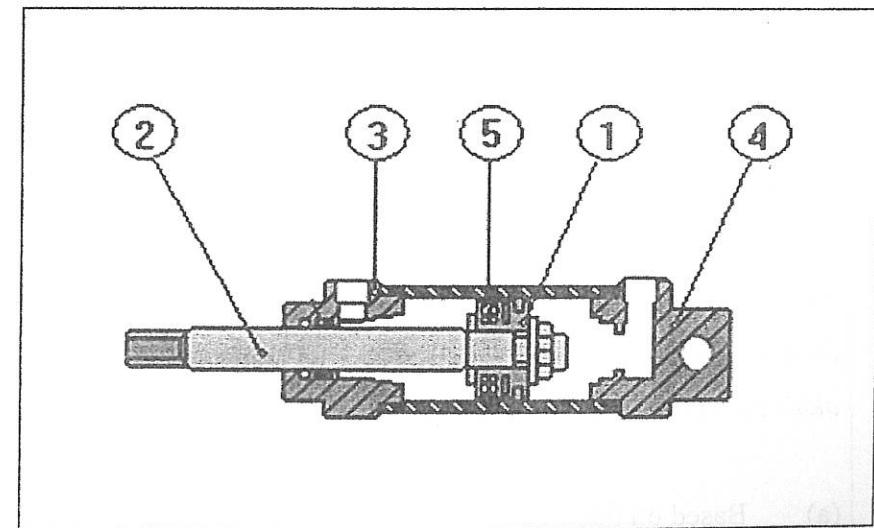

Figure 1: Double acting cylinder
- (b) Based on figure 1 below, explain the function of each of the component marked with the numbers 1 to 5.